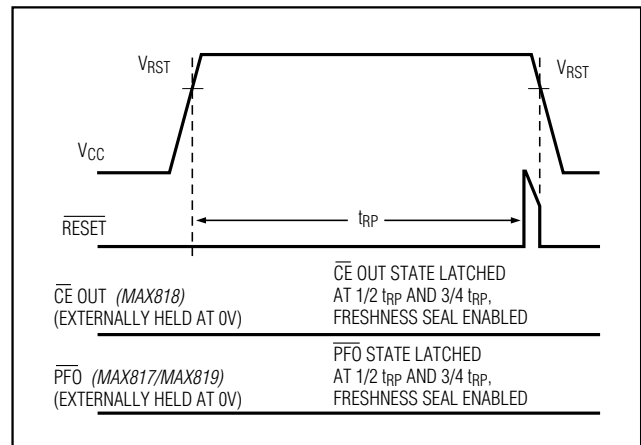

Figure 3. Battery Freshness Seal Timing
- 4) Bring  $V_{CC}$  down again (Figure 3).